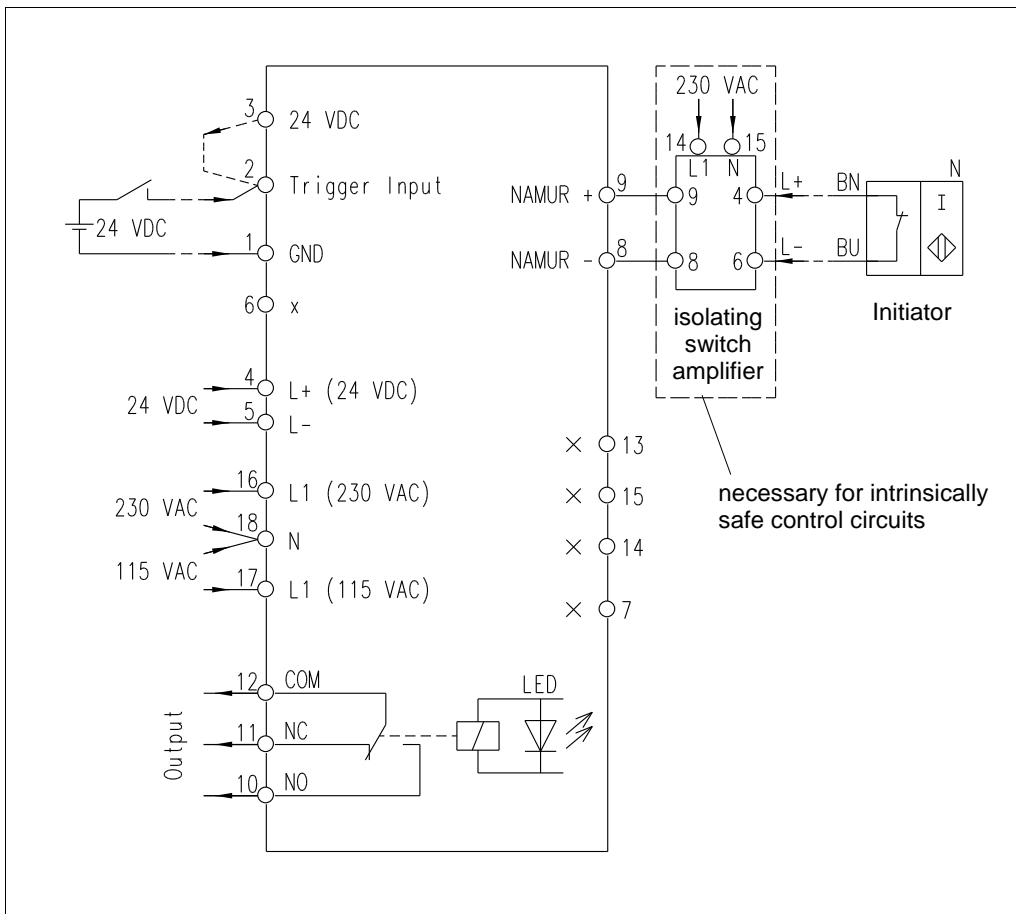

Fig. 11
- Check the wiring according to **Fig. 11**.
→ **Fig. 11,**